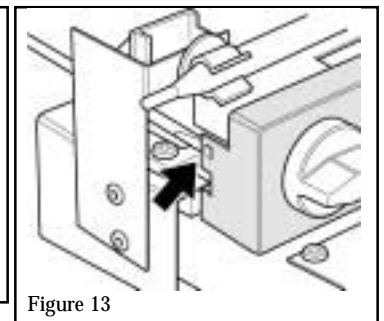
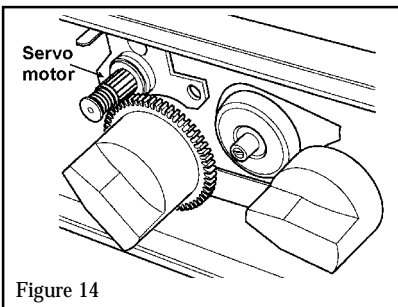

Figure 13
Figure 14
14. Lever off the control cover using a screwdriver or similar. See figure 13. **Take care that the servo motor remains correctly positioned – See figure 14.**